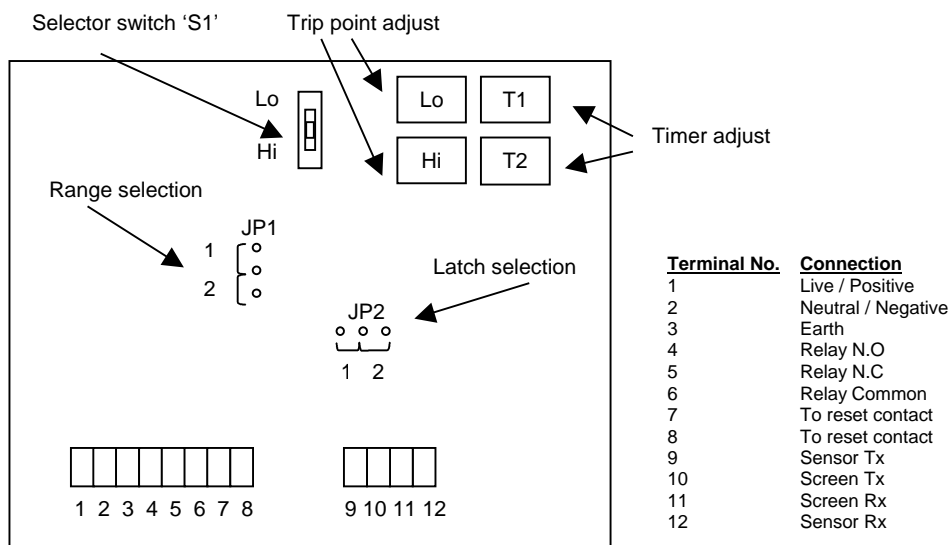

Figure 1
- Sensor** : Connect the sensor to the 4-way terminal plug as indicated in Figure 1 Terminal No's 9 to 12.